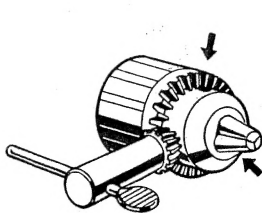

Fig. 3
2. Use all three holes in the chuck body to tighten the jaws (Fig. 3). Insert the chuck key into each hole and tighten as much as possible. To release the drill bit, use the chuck key in only one hole.